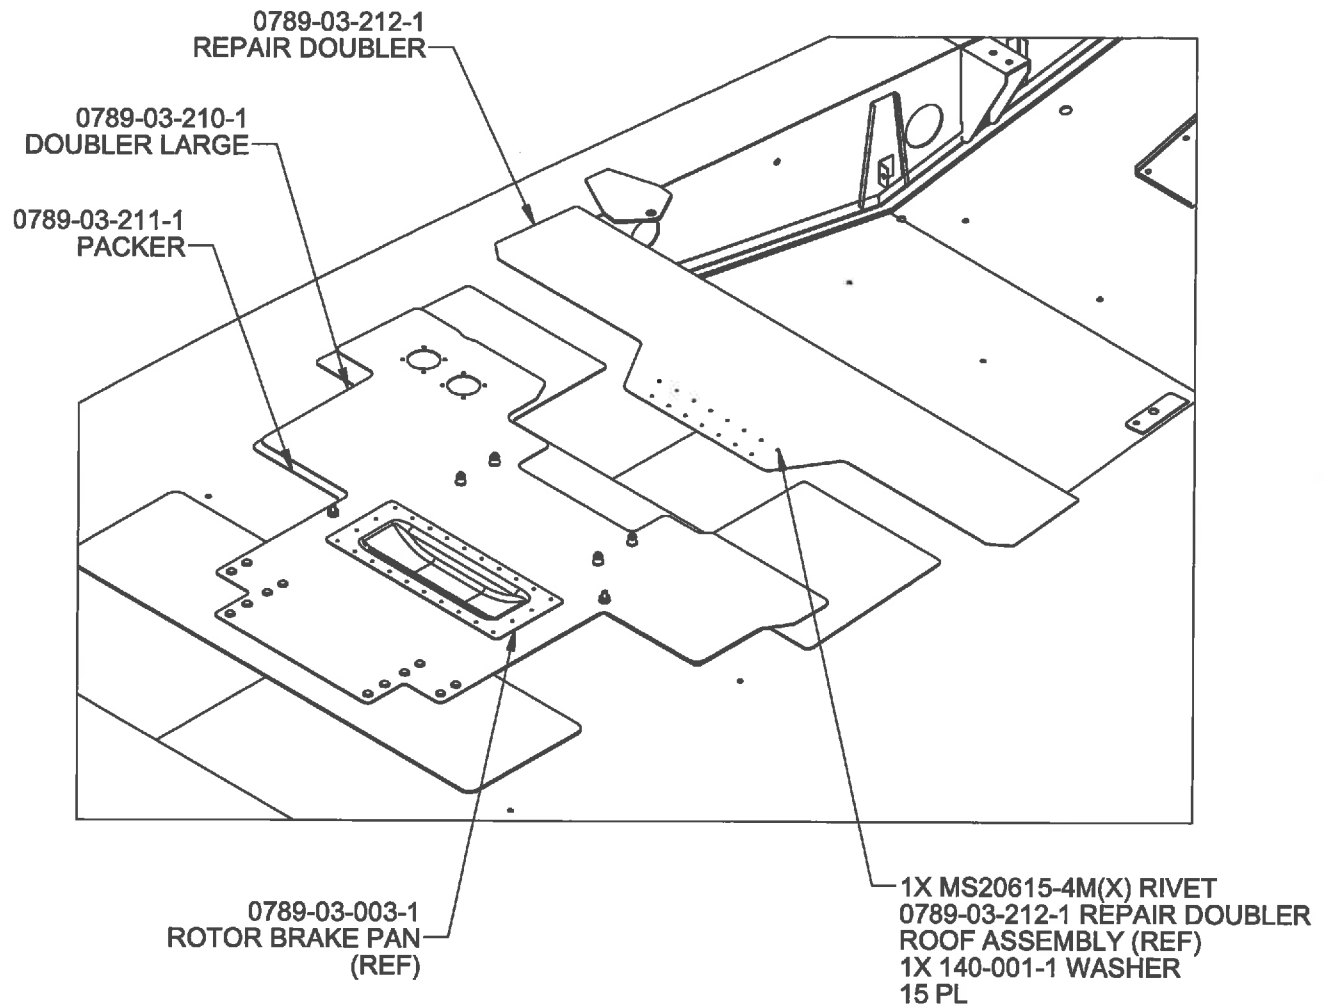
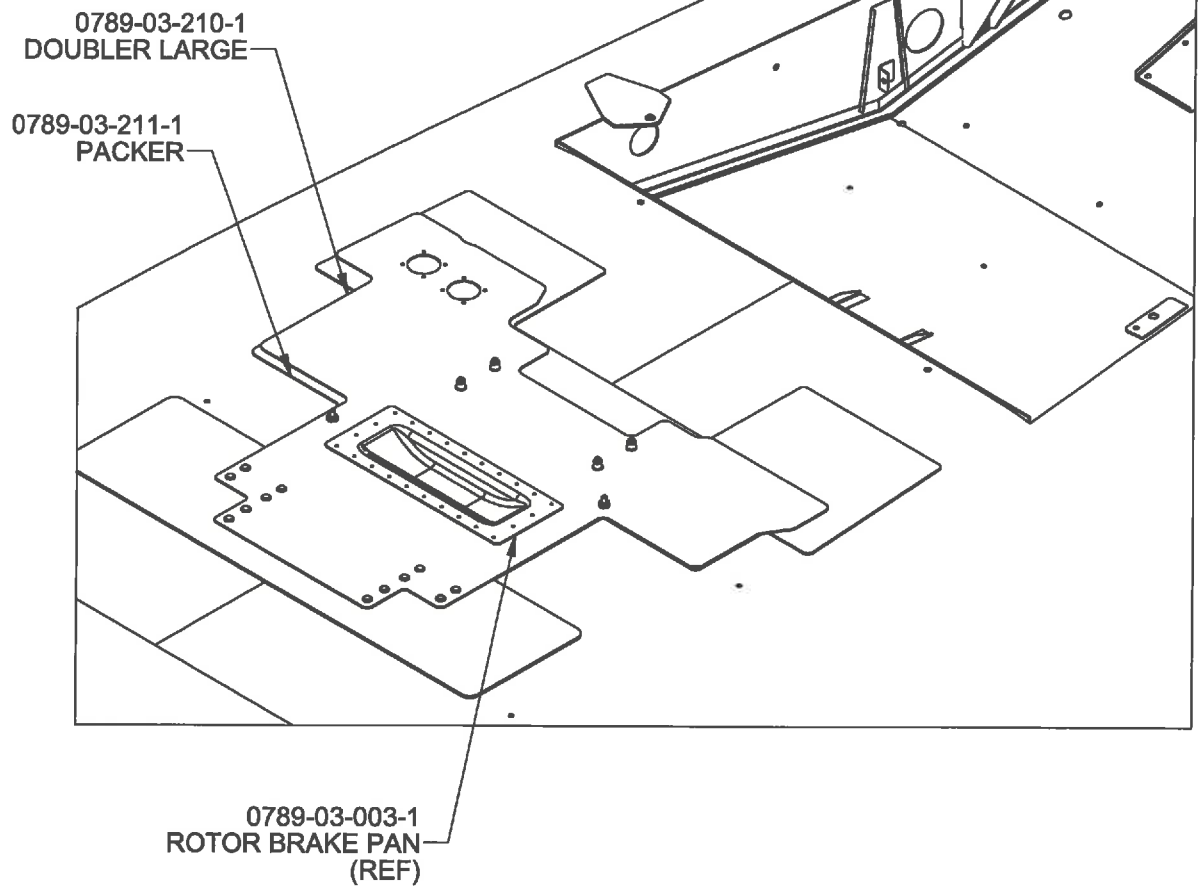

Figure 2 - Doubler Installation
Figure 3 - Doubler Installation
3. On S/N 53494 and 53599, transfer drill 0789-03-210-1 Doubler Large and 0789-03-211-1 Packer in place of p/n 0789-03-001-1 Doubler Large, p/n 0789-03-002-1 Packer and p/n 0789-03-005-1 Doubler per 0789-01-101 Doubler Installation Brake Disk, 0789-01-102 Doubler Installation and TB 407-13-104. On S/N 53494 only, transfer drill also per Bell Repair 09RL-073. Refer to Figure 2 and Figure 3.
6. Transfer drill the 0789-03-212-1 Repair Doubler from the cabin roof in place of 407-030-401-177 Skin. Transfer drill to the roof assembly from the 0789-03-212-1 Repair Doubler to the cabin roof using the FWD two rows of holes on the 0789-03-212-1 Repair Doubler per Figure 2. Take care not to damage underlying structures during drilling operation. Do not drill through inner skin except outside core area.
8. Install 0789-03-212-1 Repair Doubler in place of the Bell 407-030-401-177 Skin. Install the FWD two rows of holes on the 0789-03-212-1 Repair Doubler using MS20615-4M(X) Rivets and 140-001-1 Washers on the under side of the roof assembly per Figure 2.